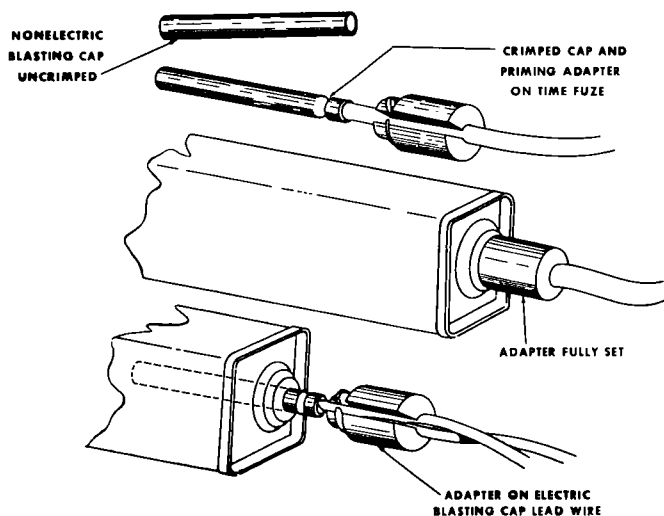

Figure 108. *Method of using priming adapter with time fuze or detonating cord.*
a. If the block of TNT is provided with a threaded cap well, a priming adapter (fig. 108)